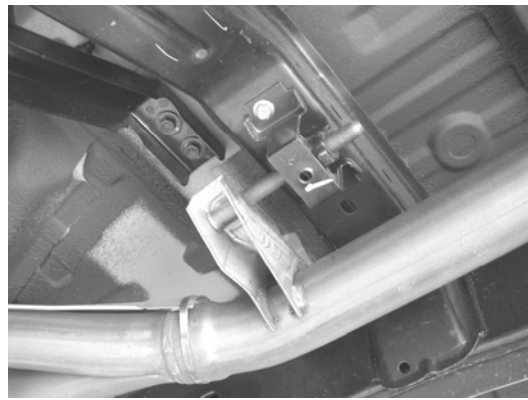

Figure 4
5. Using a muffler stand or an additional person to hold the remaining exhaust up in place, unbolt the rubber bracket shown in figure 4 from the frame of the vehicle.